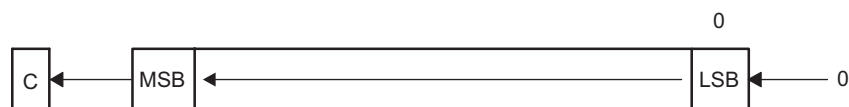

Figure 4-45. Destination Operand-Arithmetic Shift Left
Description The destination operand is shifted left one position as shown in Figure 4-45. The MSB is shifted into the carry bit (C) and the LSB is filled with 0. The RLAX instruction acts as a signed multiplication by 2.